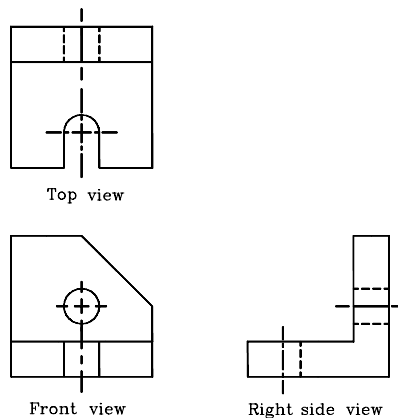

Figure 22-19 Front, side, and top views
8. Similarly, draw the top view to complete the drawing. Figure 22-19 shows different views of the given object.